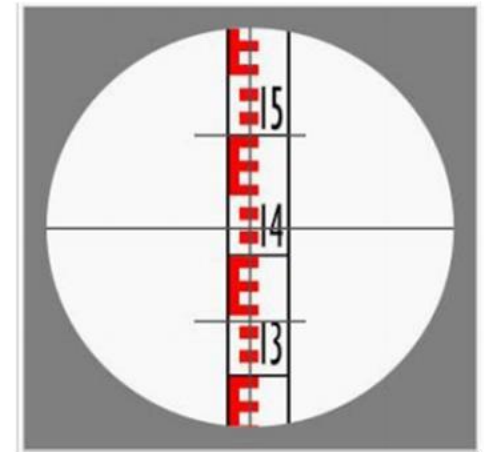

Fig 1 - View of staff through a modern telescope
- With the combination of a standard theodolite or level with stadia lines on the telescope diaphragms and the leveling staff the distance is determined by way of reading the stadia intercepts (Fig 1.)